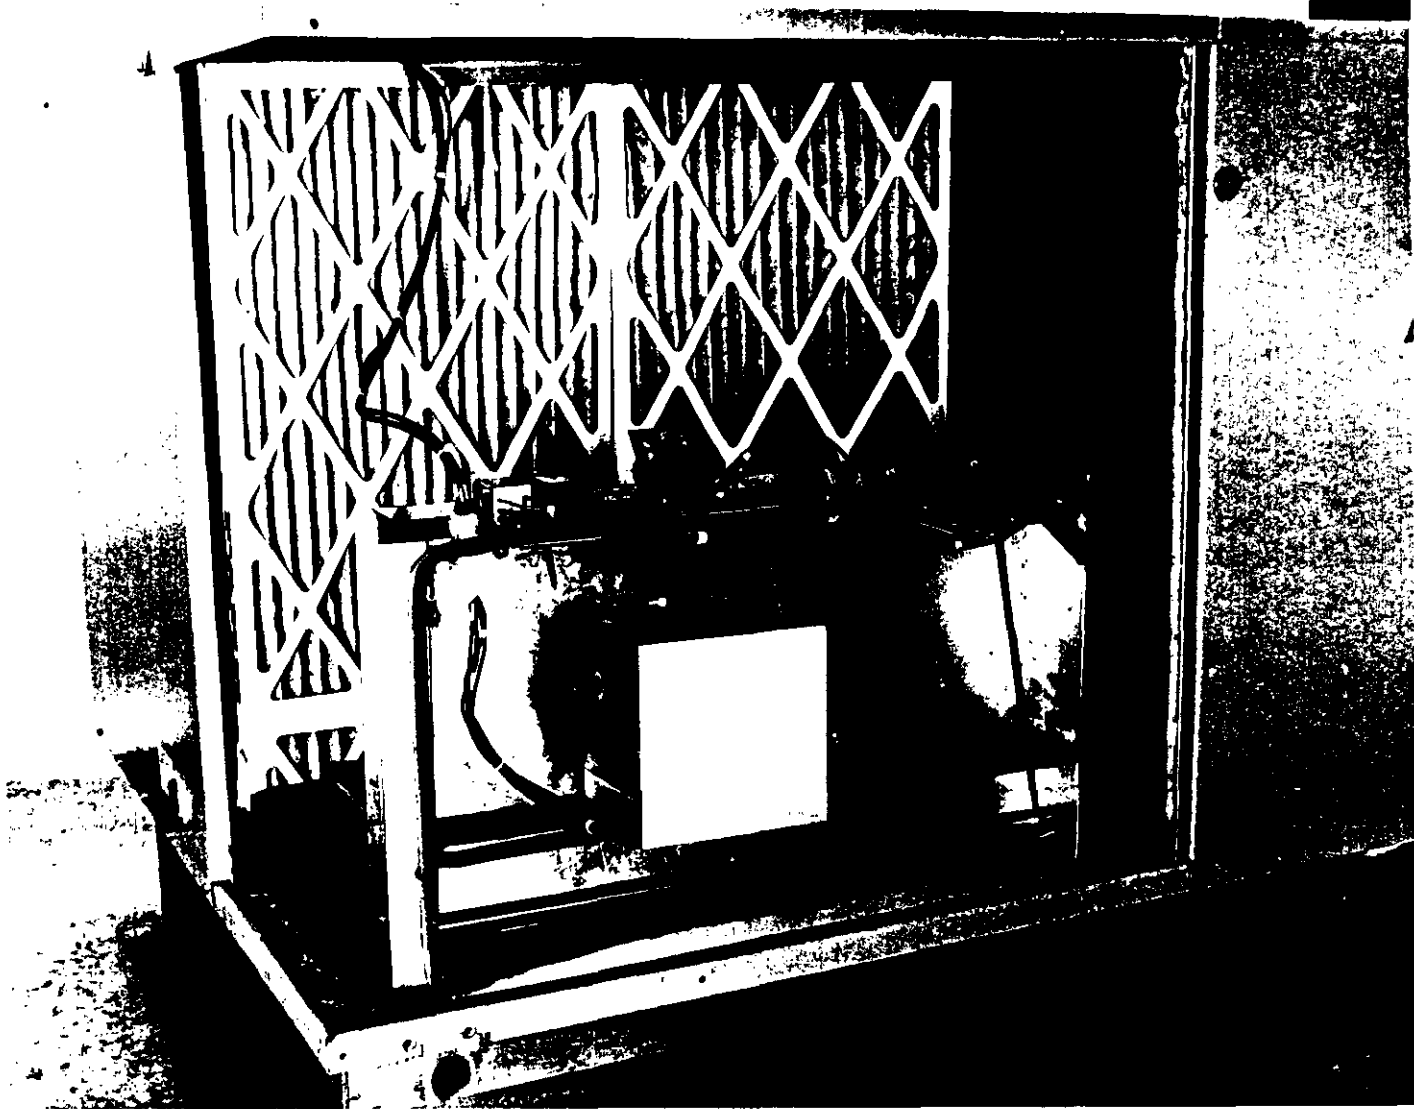

Figure 6.
11. Install the Farr 30/30 throwaway filters in rack. Take care to place them in the rack with the arrows on the filter rack in the direction of air flow (towards coil). (See Figure 6)
14. Gasket outside/return air damper assembly with adhesive backed gasketing provided in hardware package on surfaces as shown in Figure 6.